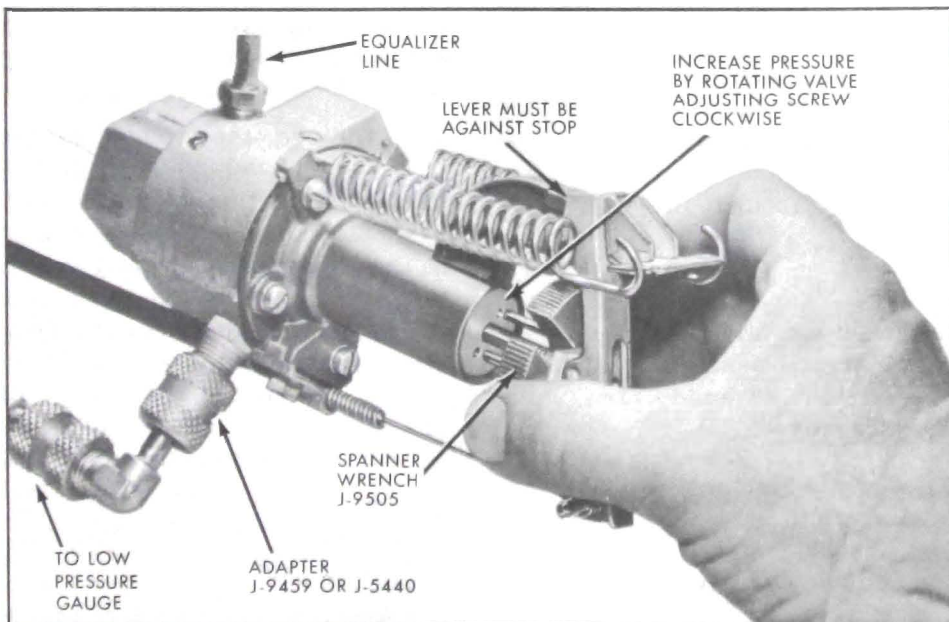

Figure 11-98—Adjusting Suction Throttle Valve
4. Install Adapter J-9459 or J-5440 on low pressure gauge line and with gauge valve closed, connect to suction throttle valve. See Figure 11-98.
just evaporator pressure to pressure specified on functional test chart. See Figure 11-98.